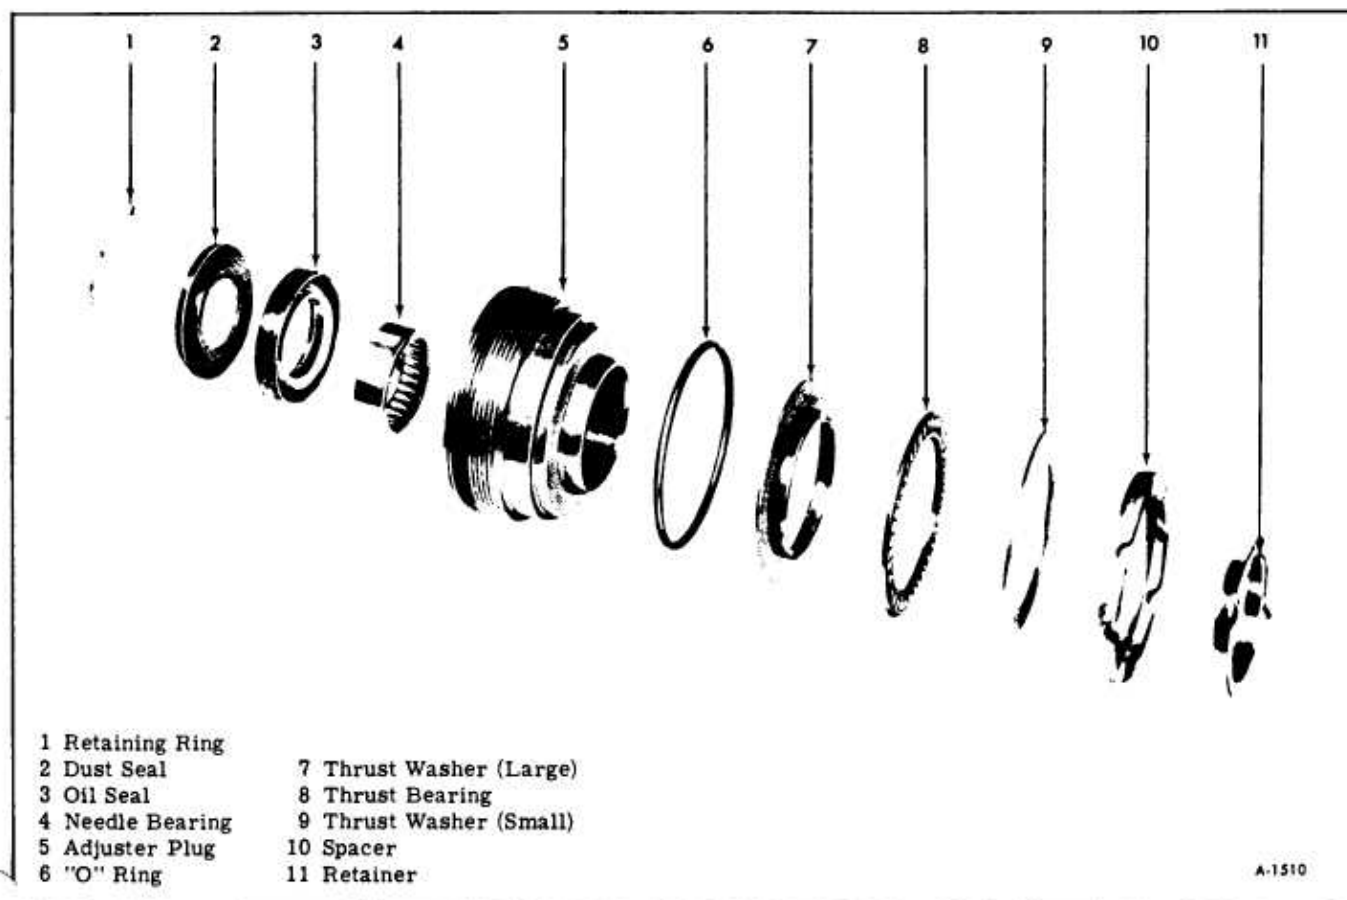

Figure 28-Adjuster Plug (Exploded View)
1. If the oil seal **ONLY** is to be replaced, and not the bearing, install the adjuster plug (figure 28)